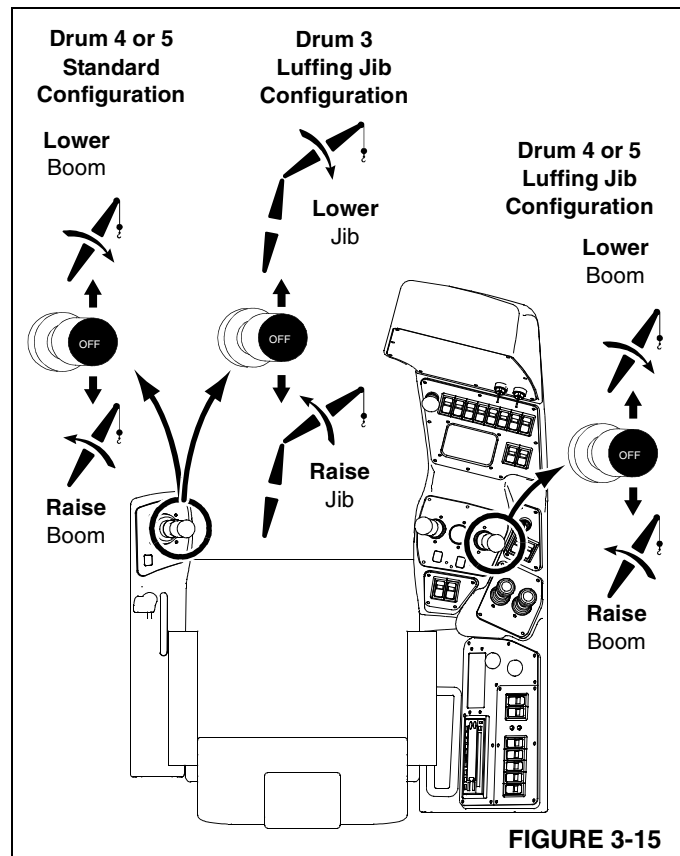

FIGURE 3-15
See Figure 3-15 for boom /mast hoist operation.
4. See Figure 3-15. Push boom/mast hoist handle FORWARD from off to LOWER boom or pull handle BACK from off to RAISE boom.
See Figure 3-15 for Luffing hoist operation.
When the crane is configured with a luffing jib (Drum 3), the multi-function handle on left console controls the luffing jib drum (See Figure 3-15).
4. See Figure 3-15. Push luffing hoist handle (Drum 3) on right console FORWARD from off to LOWER luffing jib or pull handle BACK from off to RAISE luffing jib.